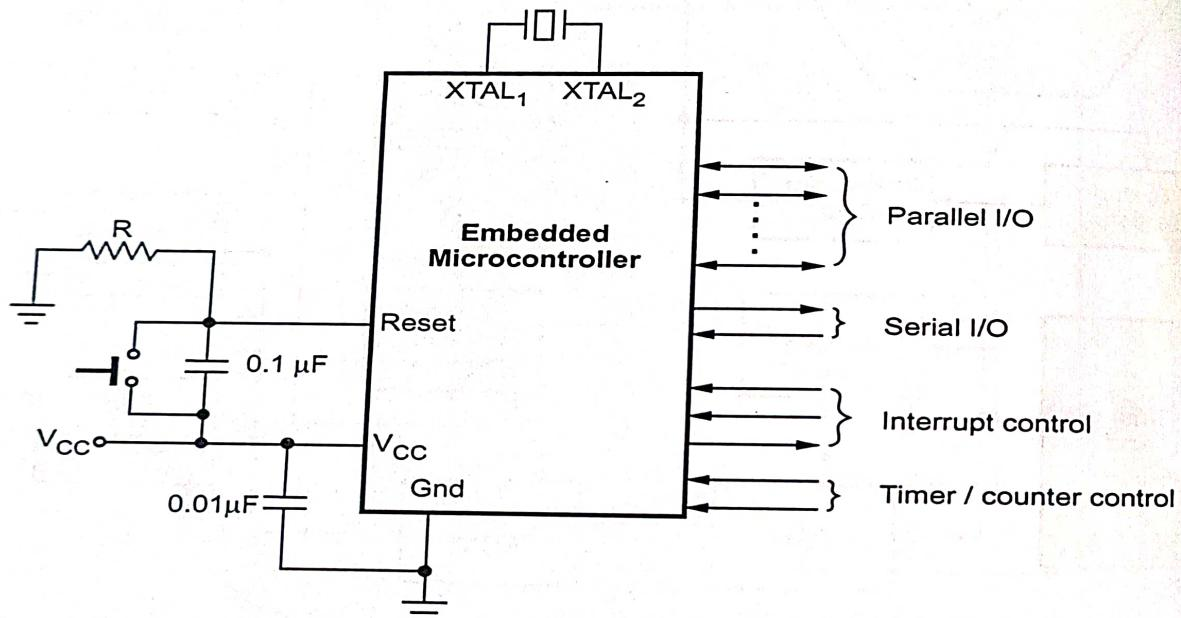

Fig. 1.1.3 Typical microcontroller system with embedded microcontroller
- Fig. 1.1.3 shows the typical microcontroller system with embedded microcontroller.